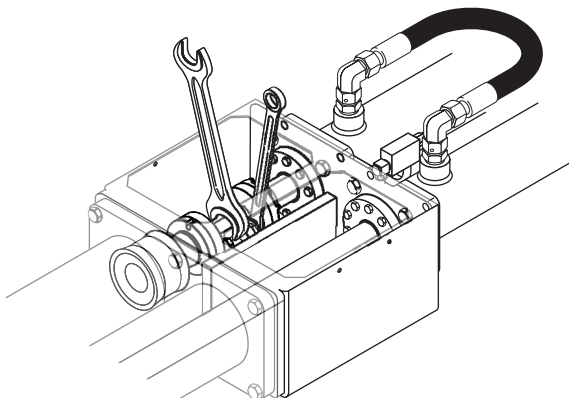

Figure 21
5. Using the 50mm open-end wrench and the 24mm x 30mm box-end wrench provided, place the 50mm wrench on the spacer coupling to hold the assembly from turning. Use the 24mm x 30mm wrench to unscrew the four M20 bolts that hold the assembly together (Figure 21).